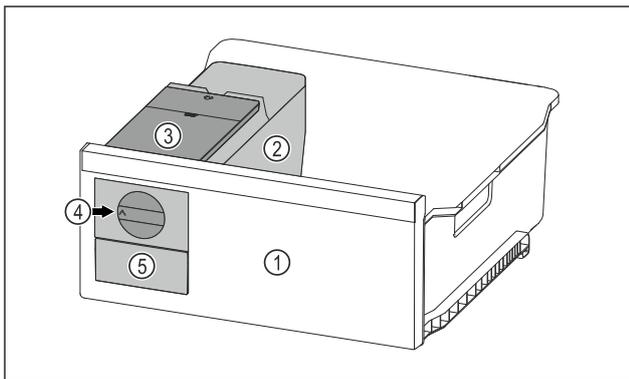

Fig. 155 Example illustration
- ▶ Turn the rotary knob Fig. 155 (4) clockwise as far as it will go.
- ▷ Ice cubes fall from the ice cube tray into the ice cube drawer Fig. 155 (5).